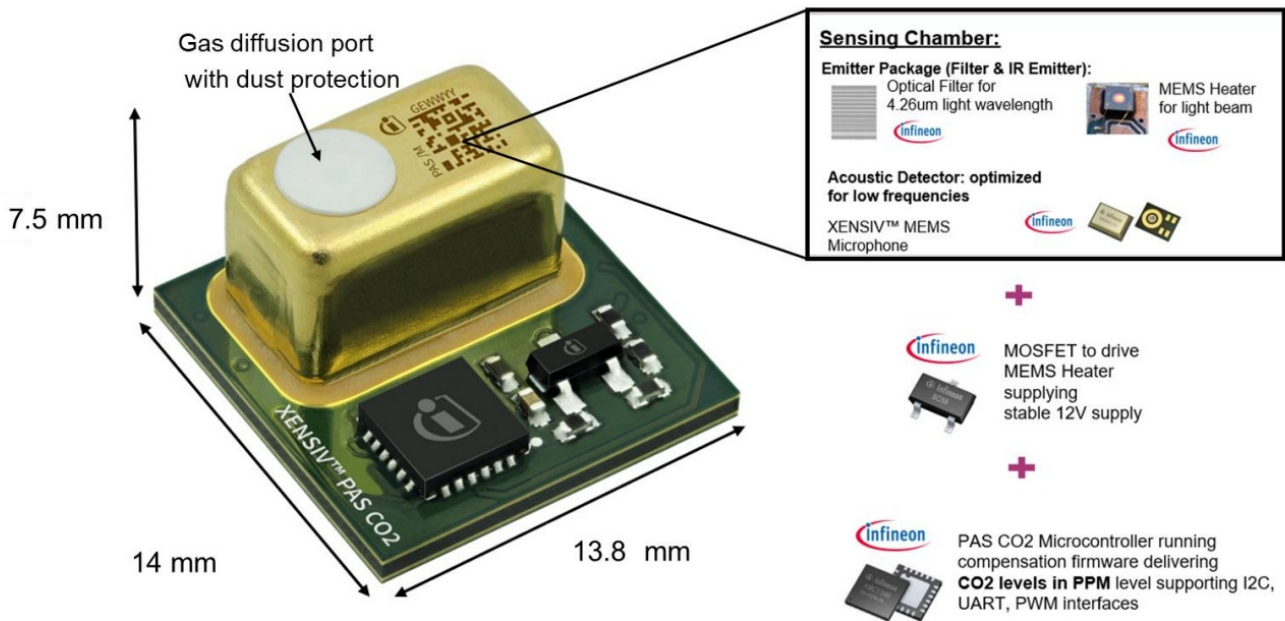

Figure 1
As shown in Figure 1, XENSIV™ PAS CO2 comprises a gas measuring cell with an infrared (IR) emitter, a high-SNR microphone as the acoustic detector, and an XMCTM microcontroller for data processing. The diffuser port on the top side of the measuring cell allows for efficient gas exchange while maintaining dust protection. The sensor module allows for integration via surface mount soldering via the pads on the bottom side of its PCB. All the key components are developed in-house, ensuring the highest quality and performance. However, proper implementation of the sensor in the application environment is essential to achieve the best sensor performance.